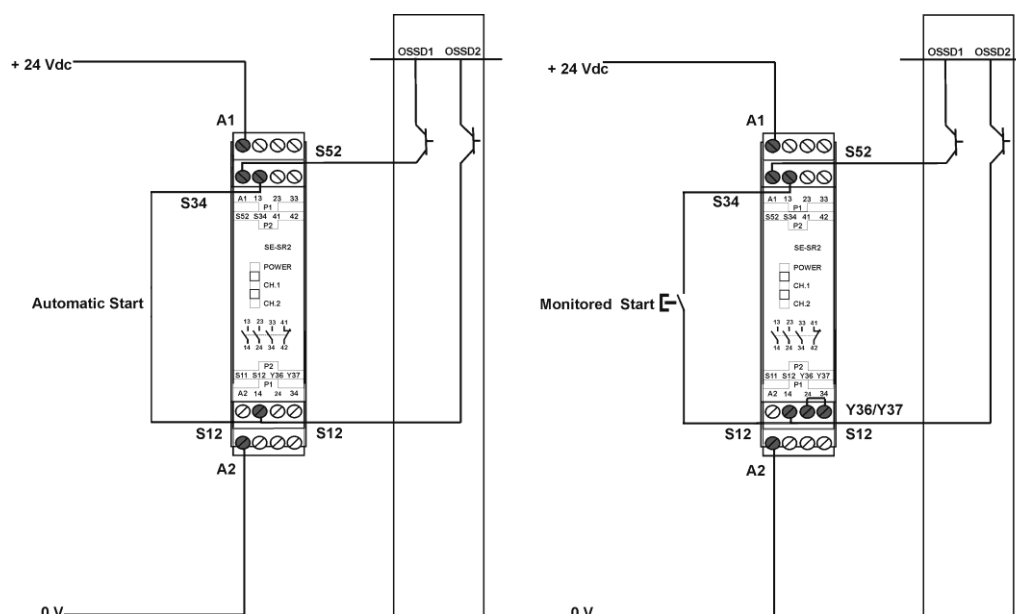

Fig. 26 - Connection to SE-SR2 Safety Relais
- The OSSD1 and OSSD2 safety contacts cannot be connected in series or in parallel, but can be used separately (Fig. 26), conforming to the plant's safety requirements.